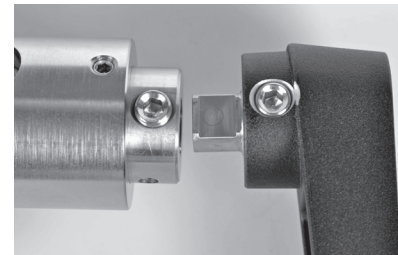

Fig. 28 Removing the handle assembly
2. Remove the handle assembly. (Fig. 28)